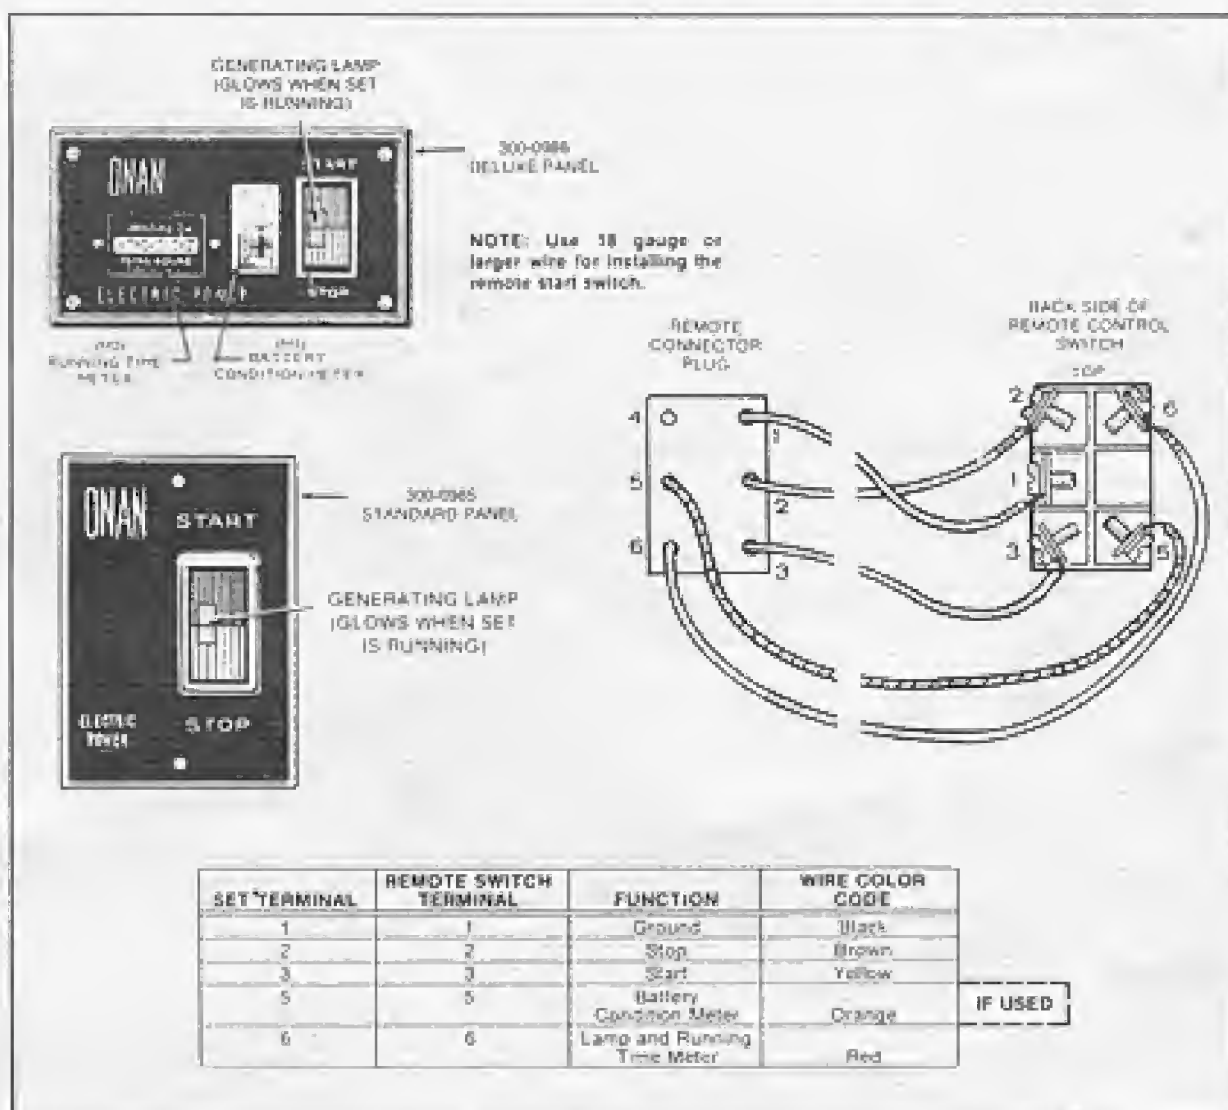

FIGURE 19. WIRING CONNECTIONS FOR 300-0985 AND 300-0986 REMOTE CONTROLS
2. Following national local electrical codes and using # 18 or larger insulated wires of predetermined length, connect remote control to generator set. Ensure that leads from remote control connect to corresponding terminals on generator set. Refer to Figure 19 for wiring connections.